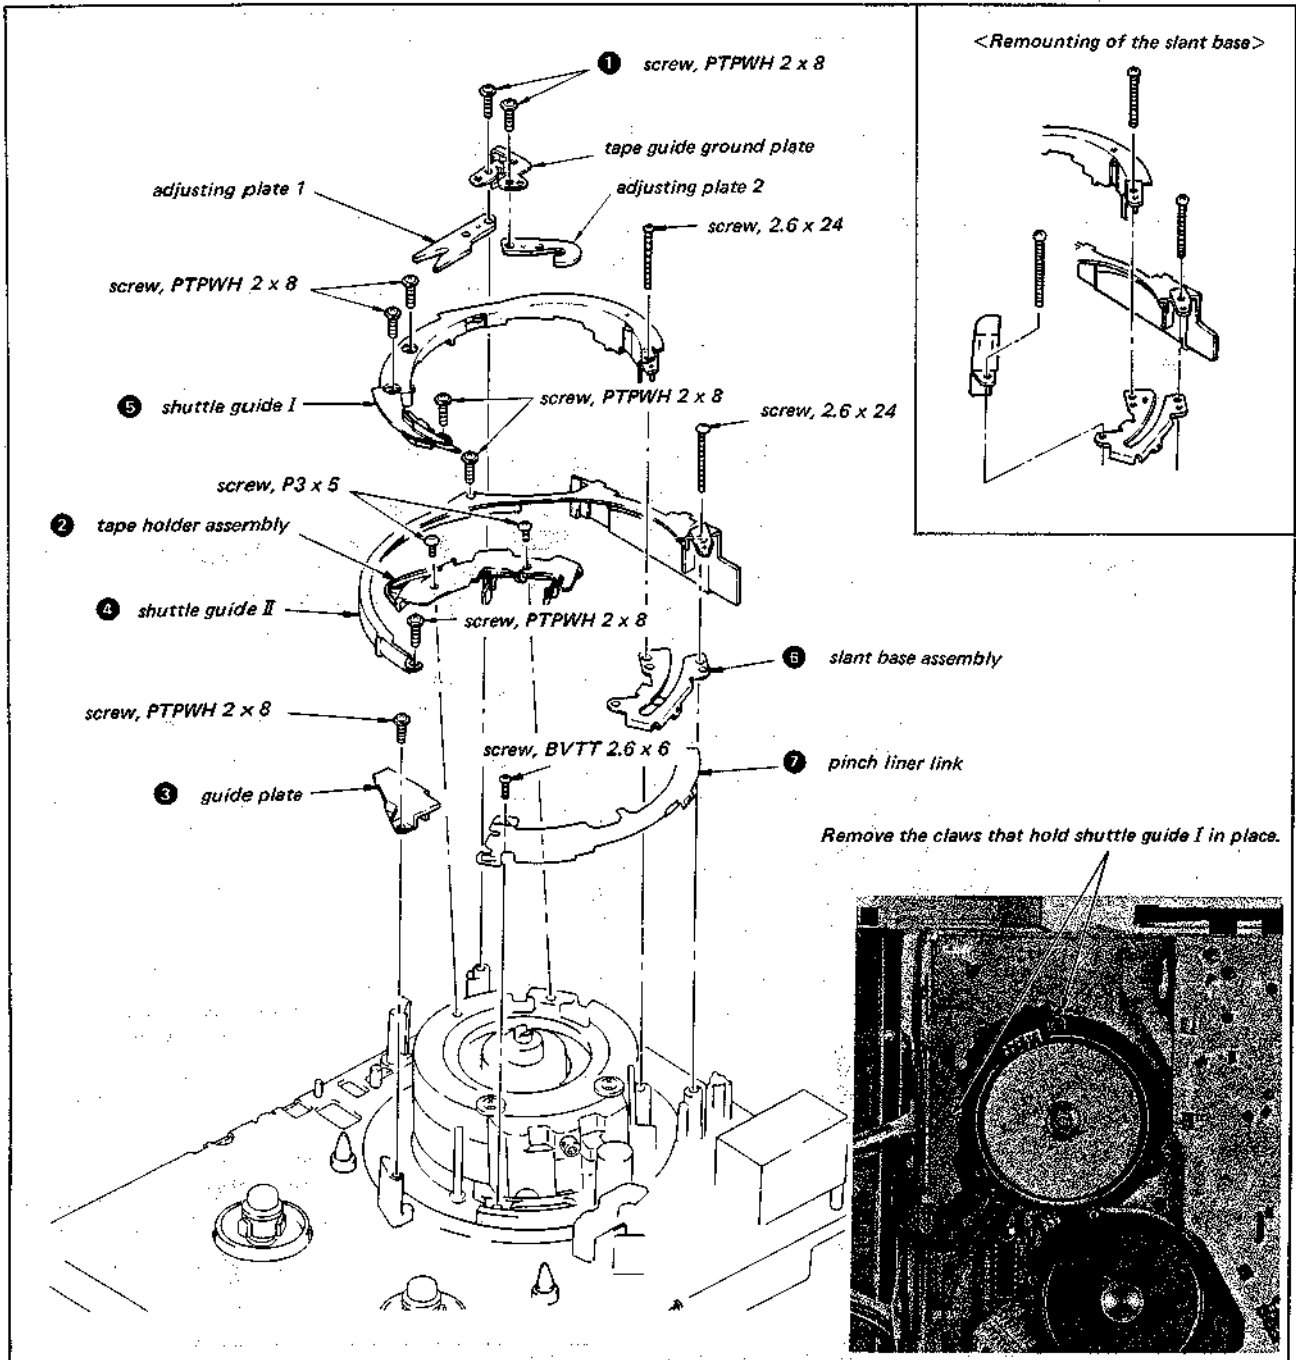

Fig. 3-20. Removal of miscellaneous parts
**Removal of Miscellaneous Parts (Fig. 3-20)**